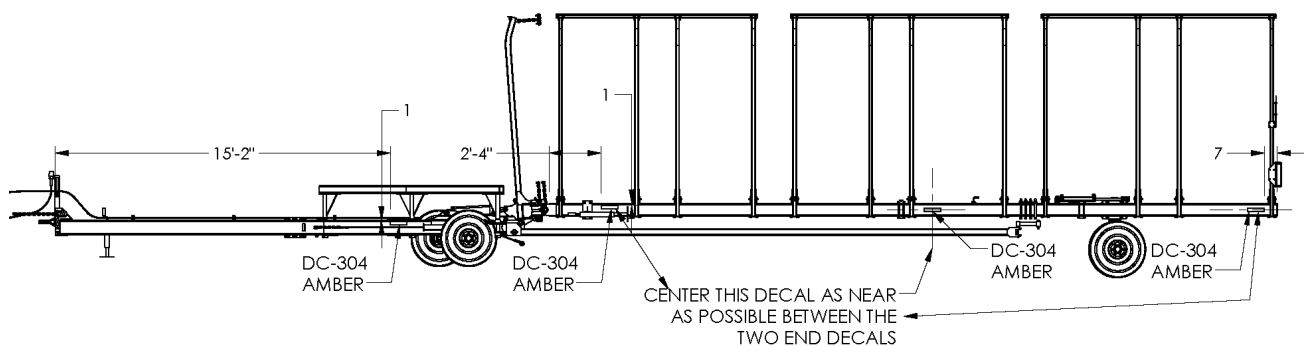

Figure 37
1. Your unit was provided with decals for properly marking the side, front and rear views. See Figures 37, 38 and 39. These Figures show decal descriptions and application locations for the left side of the unit. Repeat these instructions for the right side of the unit.